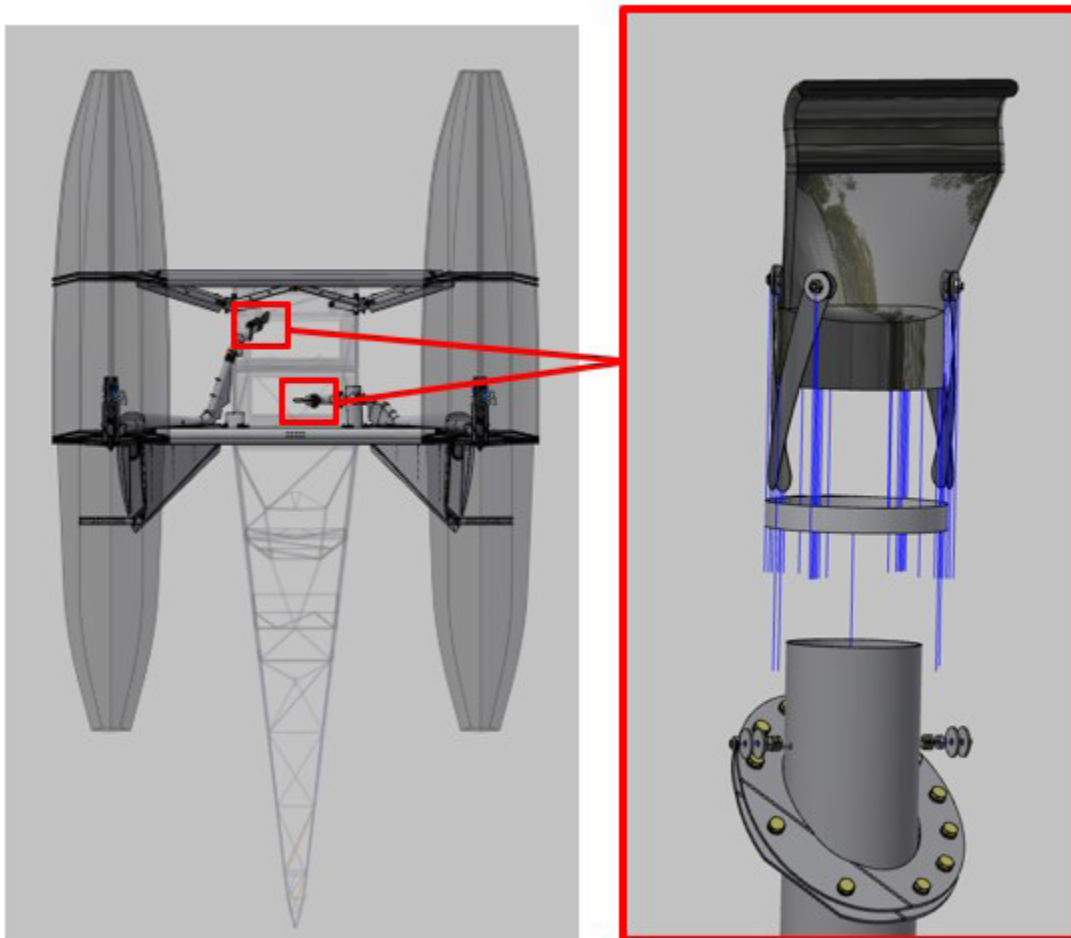

Figure 2 - Platypus Valve Removal
11. Remove forward and aft platypus valves. If safety straps are installed, then disconnect the safety straps from the studs mounted to the fill tube. Leave studs sealed in fill tube. (See Figure 2).
13. Install forward and aft platypus valves and safety by either: (See Wipaire Service Letter 235). (See Figure 2).